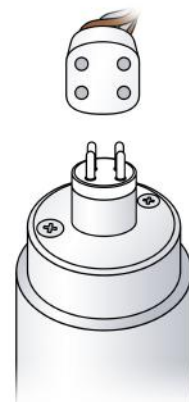

Fig 3
- c) Remove the Side Access Cover (Turn screw 90 clockwise or anti-clockwise). (Fig 3)
- CONNECT the lamp connector to the end of the UV making sure the connector is correctly aligned with the pins. (refer to Fig 3 on the previous page)